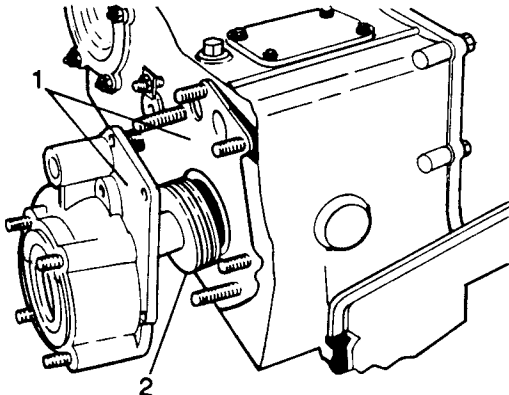

Fig H1.14
- (5) Refer to Fig H1.14. Remove the speedometer cover (1) together with the shims.
- (6) Remove the speedometer drive (2).